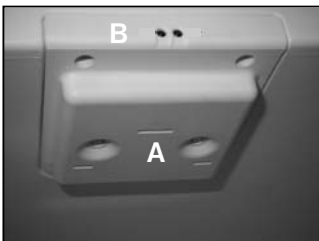
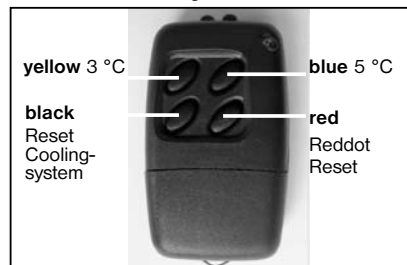

Figure 6.
Figure 9.
It is possible to modify the preset temperature value by using the remote control device. Please open the door and hold the remote control close to the door opening sensor (Fig. 6. B) of the minibar. Choose the desired temperature level by pressing either the yellow button for 3°C, or the blue button for 5°C.
The control system checks the function after every defrosting period (first defrosting phase commences 39 hours after the start, then later every 24 hours) by measuring the evaporator temperature drop. If it registers a problem the refrigerator will shut down and the LEDs of the interior light will begin to flash continuously. If this happens in many cases this is due to an overloading of the fridge (too many warm foods and/or drinks in), or the door was not properly closed, or the cooling unit ventilation is not correct and/or a refrigerator is not levelled. Please check and after that reset the refrigerator by using the remote control (Fig 9.) against the door opening sensor (Fig 6. B) and push the "black" button, or unplug the refrigerator at least for 10 seconds and plug it in again. This resets the unit and it will function again. If the continuous flashing comes back then there is a real problem with the cooling unit and you should contact the Dometic service.
8.1.1. Interior LED light (Fig. 6.) (cooled compartment)
2. Reset the door control signal by holding the Remote control (Fig. 9.) against the door opening sensor (Fig. 6. B) and push the "red" button.